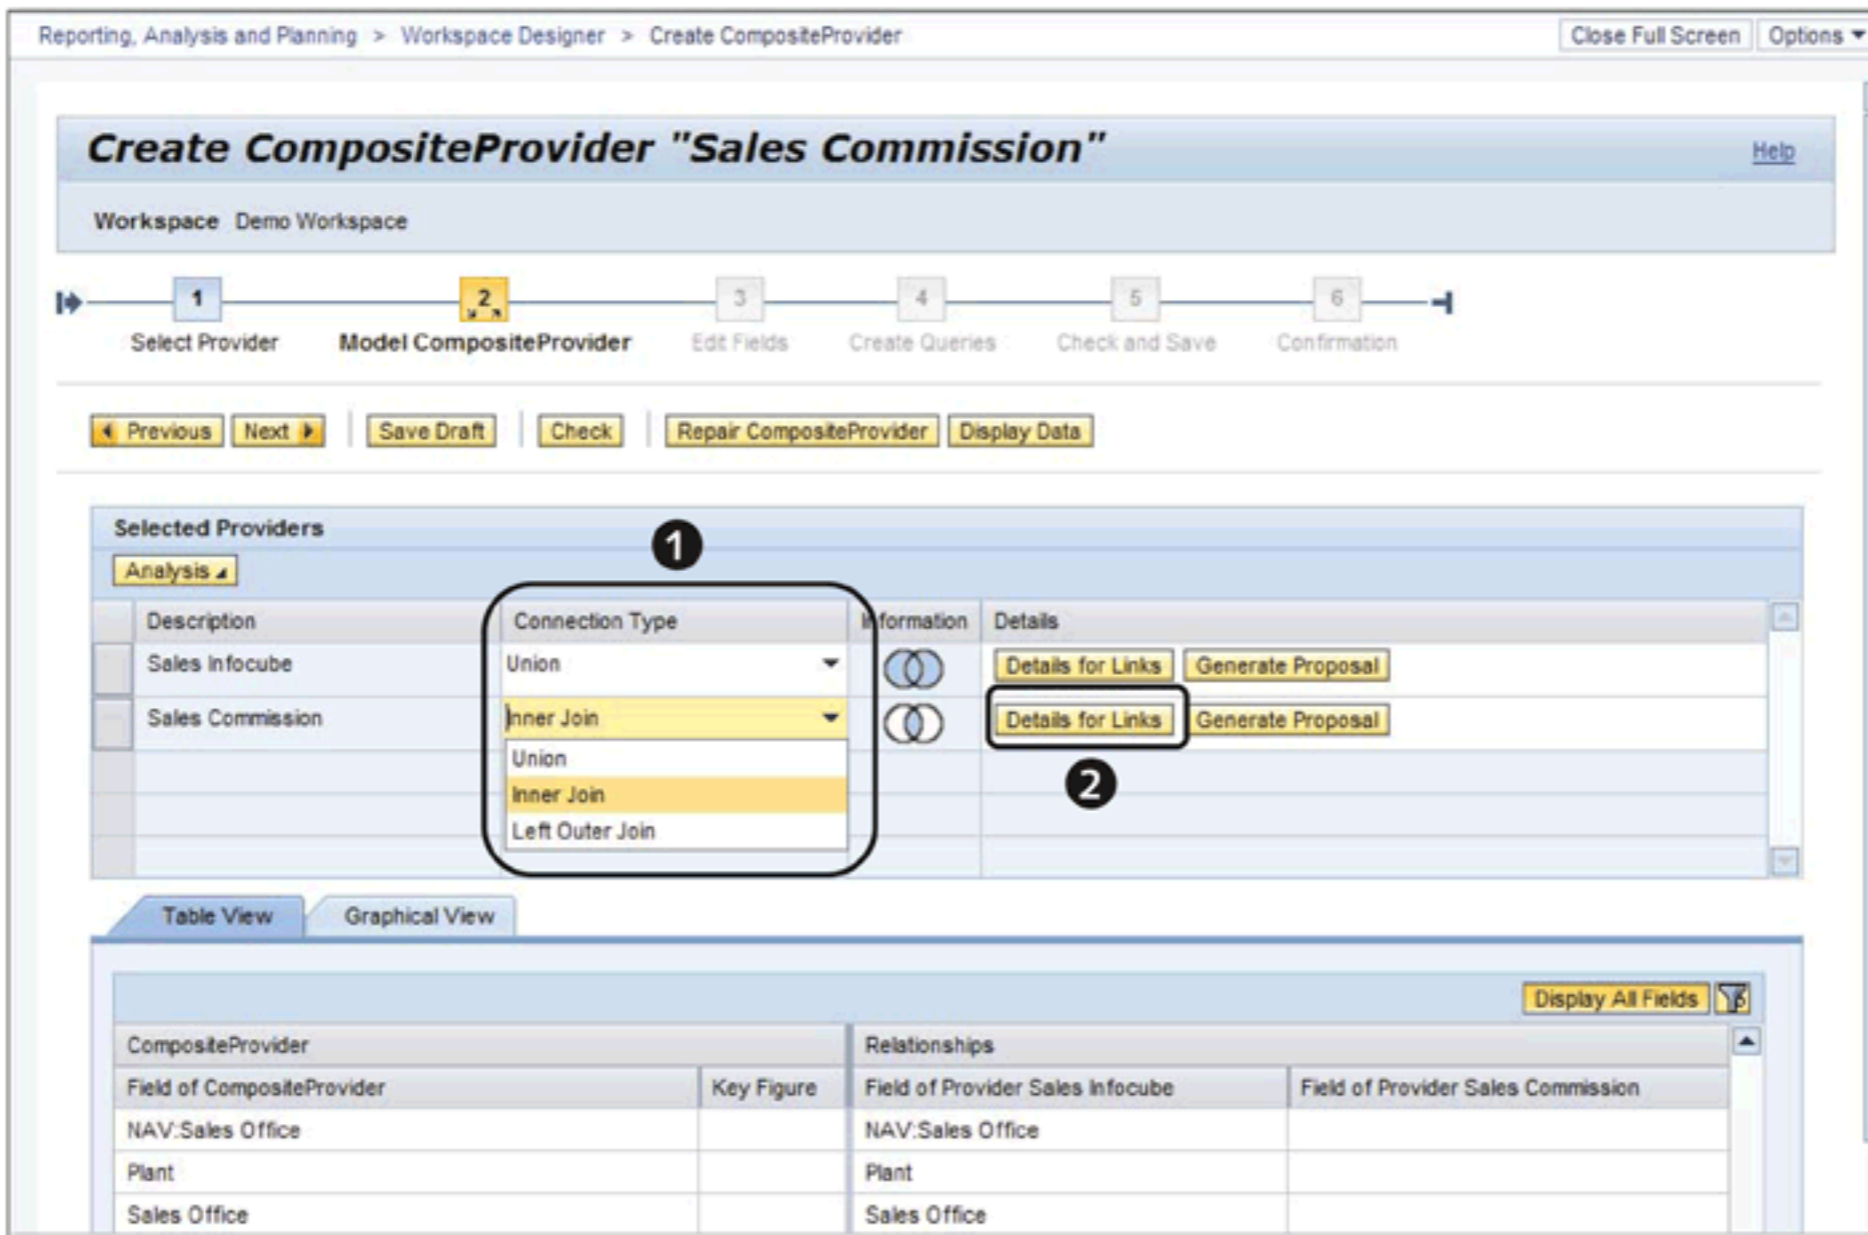

Figure 10.77 Model Composite Provider
The next step is to define the data model of the composite provider by defining connections between the previously selected central and local providers (Figure 10.77). Select the CONNECTION TYPE from the dropdown (1) for each of the selected providers.